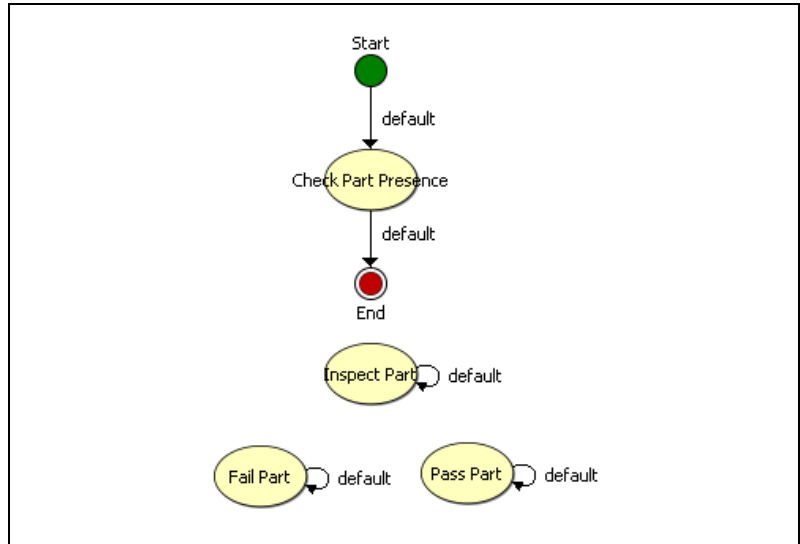

Figure 6-3. Adding New States to the Inspection
6. Create two more states named `Fail Part` and `Pass Part`. The state diagram should now resemble the state diagram shown in Figure 6-3.